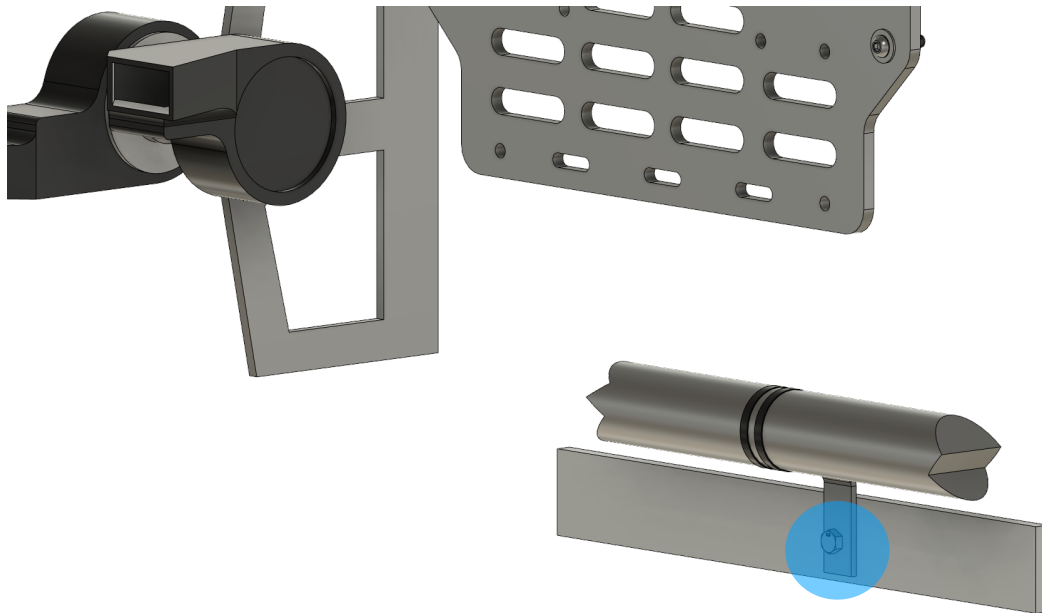

Figure 6
- *Rotate and align the small slotted end of the 4043 to the factory hole exposed by the removal of the bolt in figure 6 so that it rests against the structure of the lower radiator core support.*